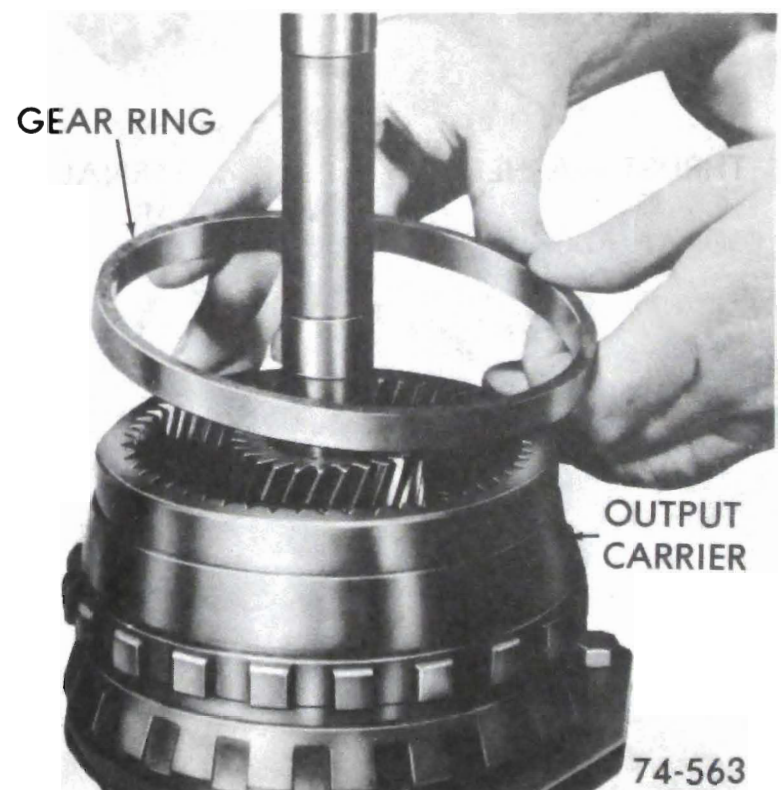

Figure 76-105
5. Remove front internal gear ring from output carrier assembly. See Figure 76-105.